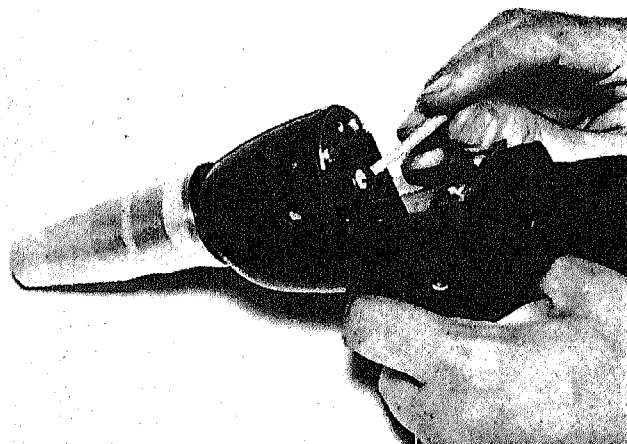
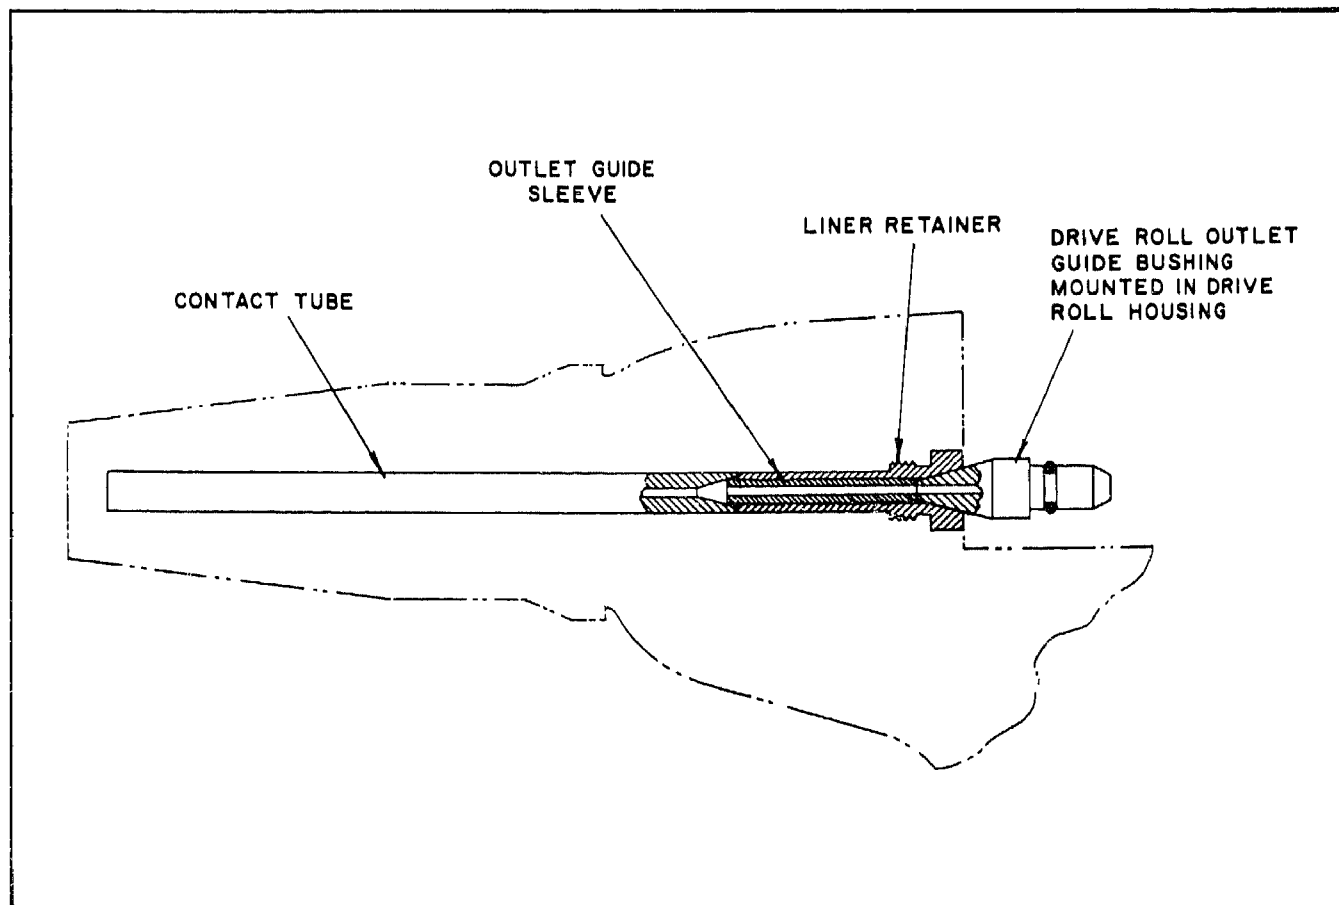

Figure 14. Installing Outlet Guide Sleeve in Gun
Figure 15. Final Position of Wire Guide Fittings in Gun Barrel
a. Insert a 1-3/16-inch long outlet guide sleeve (Fig. 14) into liner retainer of Gun. Push sleeve all the way in until end is at base of retainer counterbore (Fig. 15). (Slots in retainer hold the sleeve in place.)
f. Slide contact tube with collet and nut onto wire protruding from Gun. Push contact tube into barrel until it touches liner retainer (Fig. 15).